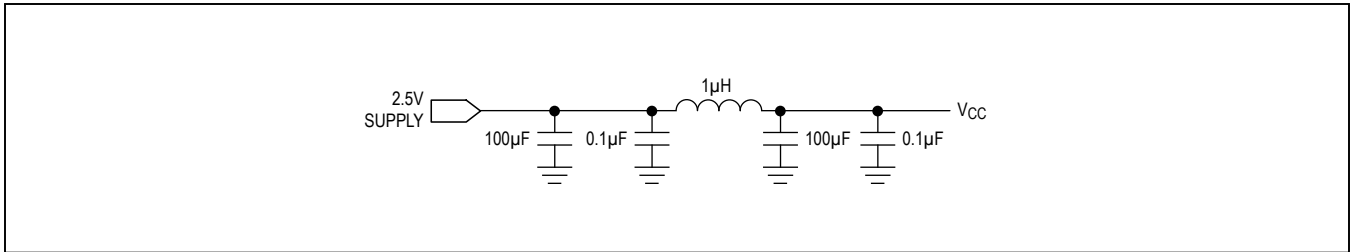

Figure 1. Recommended Supply Filtering
(Typical values are at VCCR = VCCT = VCCP = 2.5V, TA = +25°C. See Figure 1 for typical supply filtering.) (Note 2)
**Electrical Characteristics (continued)**(Typical values are at  $V_{CCR} = V_{CCT} = V_{CCP} = 2.5V$ ,  $T_A = +25^\circ C$ . See Figure 1 for typical supply filtering.) (Note 2)
(Typical values are at  $V_{CCR} = V_{CCT} = V_{CCP} = 2.5V$ ,  $T_A = +25^\circ C$ . See Figure 1 for typical supply filtering.) (Note 2)